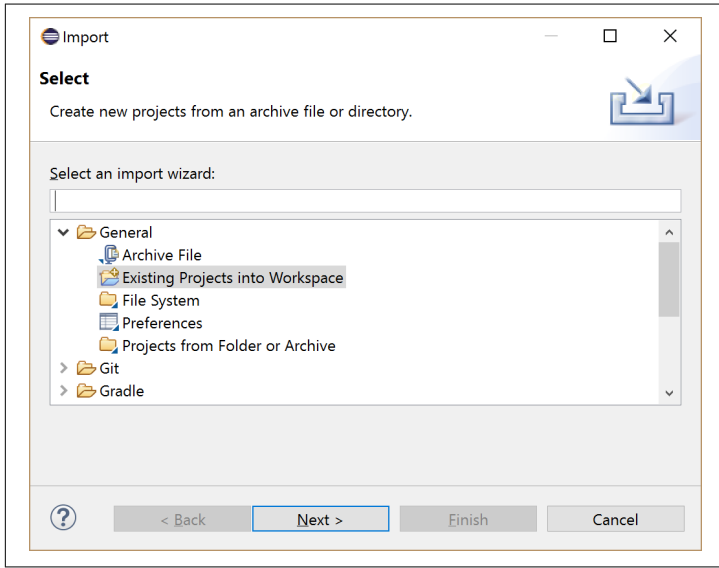

Figure 4-1. Importing an existing project
1. Now you're ready to import one of the Connect IQ sample projects. Choose File→Import, and the Import dialog will appear. Make sure General→Existing Projects into Workspace is selected as shown in Figure 4-1. Click Next.